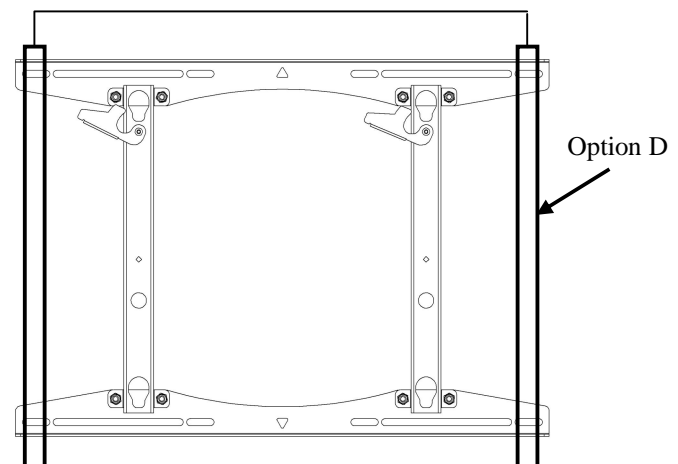

Figure 7. Mounting Holes – 24" Apart On Center (Option D)
- **Option D.** Install four 5/16" x 2-1/2" lag bolts (50) and four 5/16" washers (60) (two top and two bottom) into the mounting holes, centering the PST on dual wood studs 24" apart on center as shown in Figure 7.